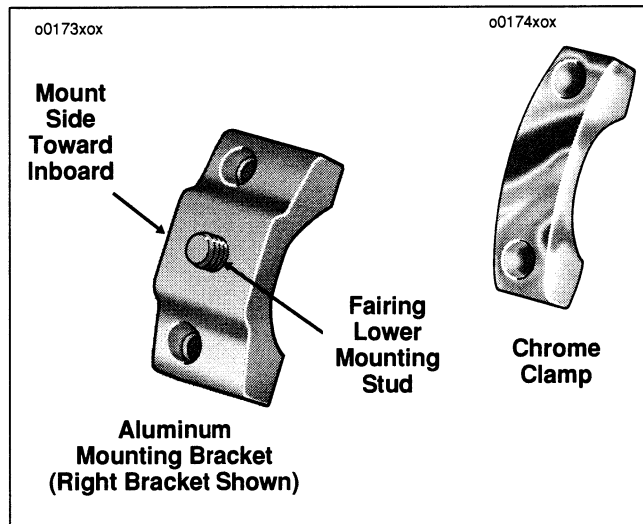

Figure 36. Fairing Lower Bracket/Clamps
6. See Figure 36. Install fairing lower (chrome) clamp (Part No. 58490-79), using the two fasteners removed in step 5. (Align in board edge aluminium bracket to be flush with in board edge of fairing support.) Tighten fasteners to 36-60 in-lbs (4-7 Nm) torque.